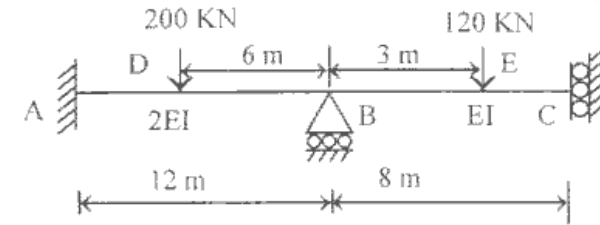

Fig.4
4. a) Analyse the continuous beam shown in Fig.4 by Stiffness method. Support C is guided support also draw SF and BM diagram. Assume EI is Constant.